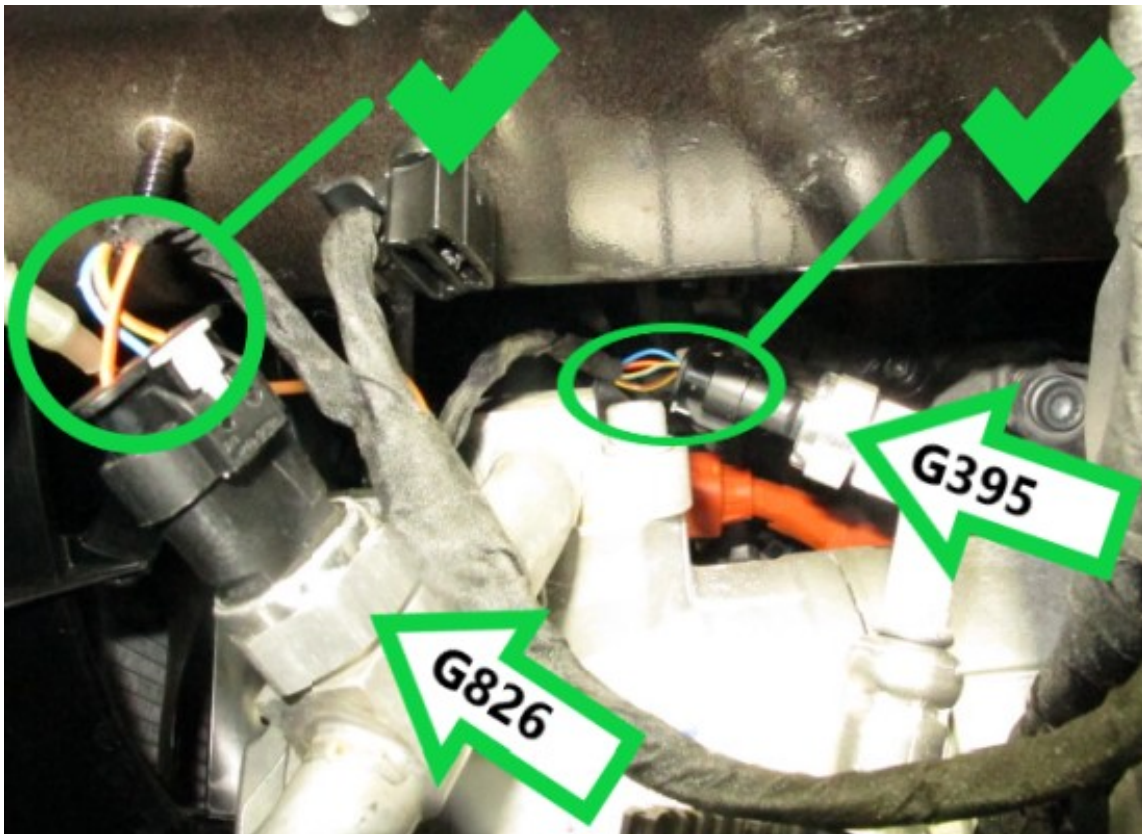

Figure 2
In the event the pressure sender connector plugs are fitted incorrectly the plugs should be disconnected and refitted correctly as shown in Figures 2 and 3
- Figure 2 shows G826 and G395 connector plugs fitted correctly